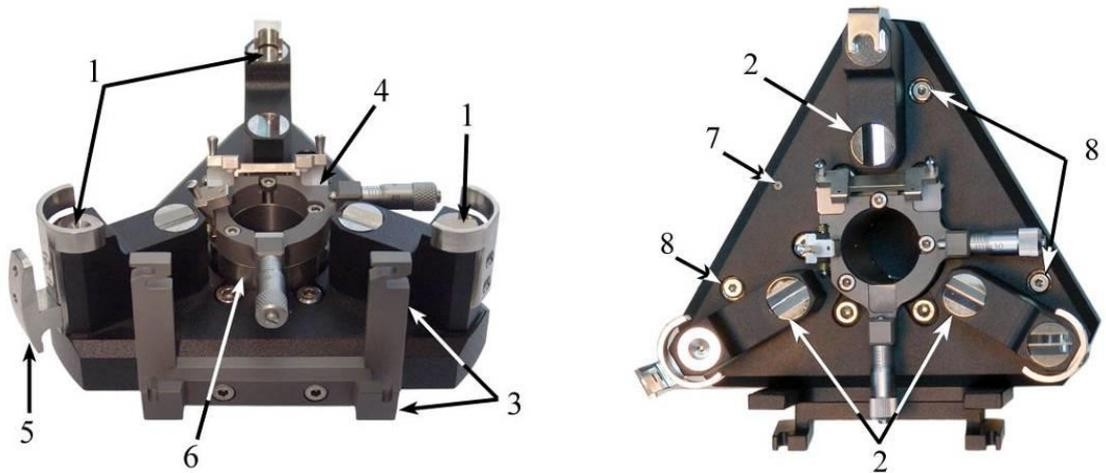

Fig. 2-2. Exchangeable mount
Basic parts of the exchangeable mount are shown in Fig. 2-2.
There are two types of sockets on the exchangeable mount (see pos. 1, 2 in Fig. 2-2). Depending on its type, a measuring head can be installed either into the slots 1 or into the slots 2.